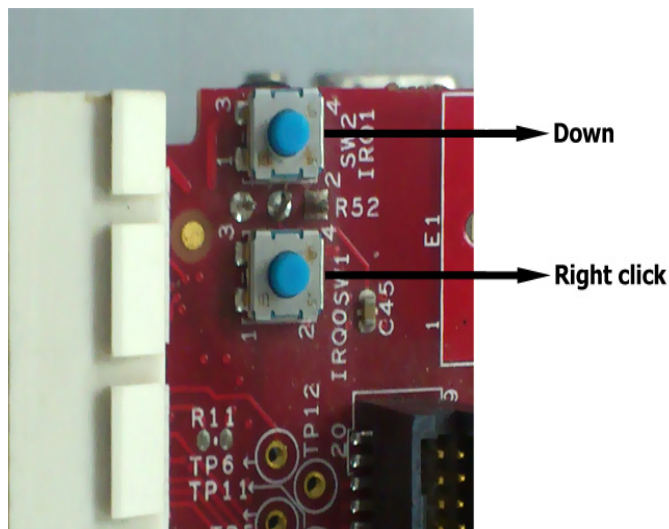

Figure L-17. HID device push buttons
2. After the HID device is installed, it can be moved on the host computer screen by pressing the push buttons. Figure L-17 shows the function of these button.